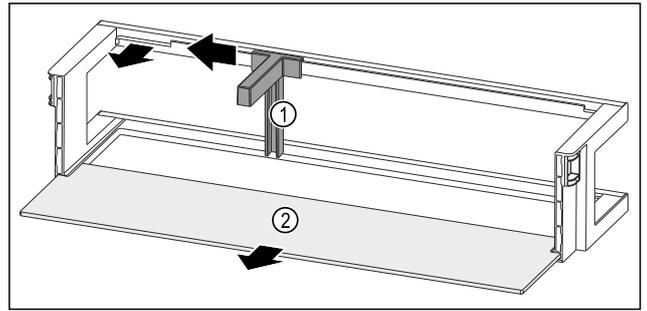

Fig. 95 Door rack with bottle holder and shelf
- ▶ Slide the bottle holder Fig. 95 (1) to the side as far as the recess.
- ▶ Remove the bottle holder Fig. 95 (1).
- ▶ Remove the shelf Fig. 95 (2).